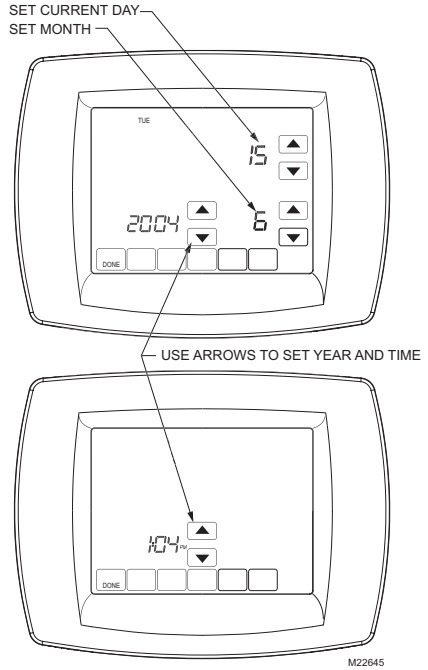

Fig. 19. Setting calendar and time after initial powerup.
This comfort control is designed to automatically keep the current time and day in memory for up to ten years under normal use once the calendar is set. When the comfort control is first powered, the display is ready for the calendar date to be entered. See Fig. 19.
1. Use the arrow keys to set the Year, Month and Day, as shown in Fig. 19.
3. Use the arrow keys to set the current time. See Fig. 19.